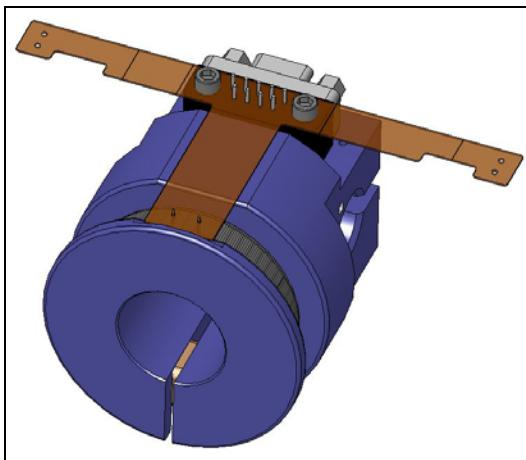

Figure 1 - Coil-former assembly.
- Tests are performed on the part-assembled coilformer (see Figure 1), measuring the coil insulation using a DVM. This test will provide an early indication of any faults with the flex-circuit and coil winding.